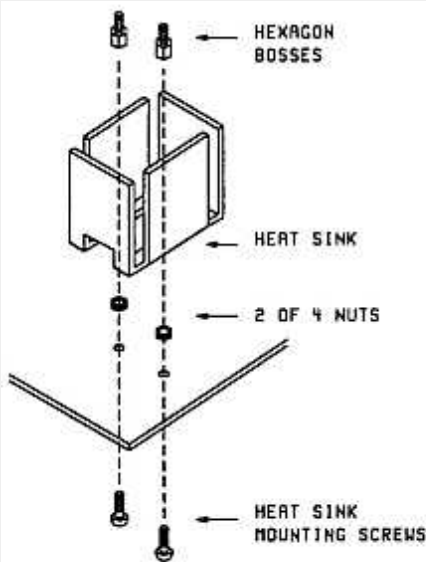

FIGURE 3
8. Remove the two nuts from the heat sink mounting screws. Figure 3.
9. Replace the mounting screws with the ones in the kit. If the original screws have been soldered to the board, remove the excess solder and while the screws are still hot, turn the board upside down to allow the screws to fall onto the work surface. Figure 3.
10. Secure the new mounting screws with the two nuts that were removed in step 8. Figure 3
11. Install the heat sink and secure it with the two hexagon bosses from the kit. Figure 3